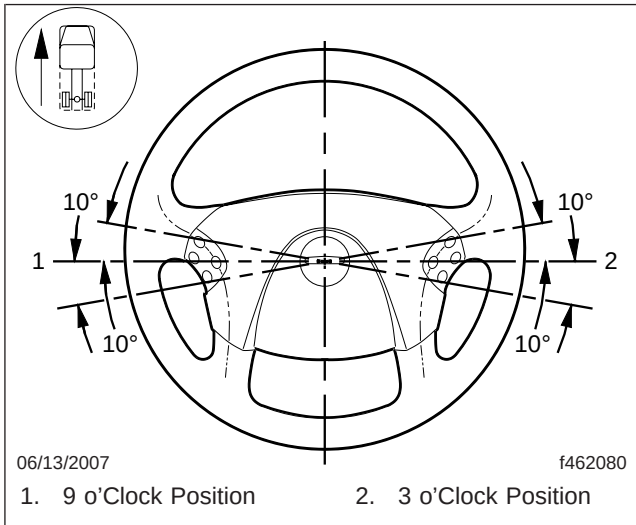

Fig. 2, Steering Wheel Centered
3. Position the steering wheel so that it is within ± 10 degrees of center as shown in Fig. 2.